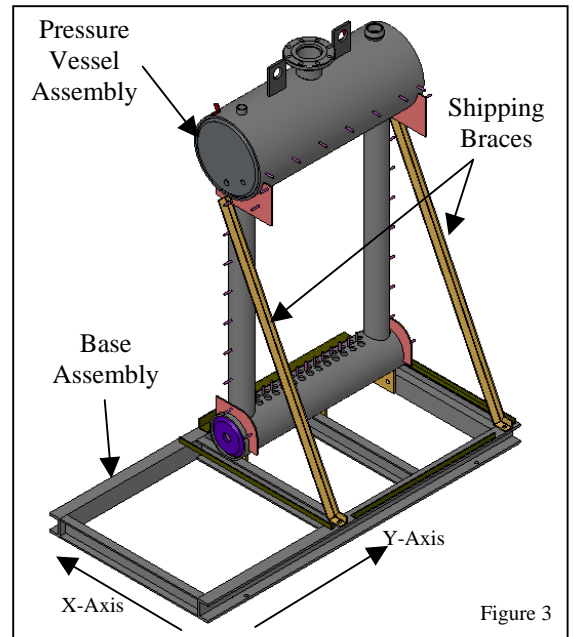

Figure 3
- 1.3 Shipping braces shipped loose for KD-1, used only if needed. See Figure 3.
- 1.4 Next place a 24" long level across the top of the boiler outlet nozzle and make sure it is level on both 'X' and 'Y' axis. Tighten bolts from paragraph 1.2 after leveling is complete. The shipping braces are for shipping purposes only. Please remove after Pressure Vessel is positioned. See Figure 3.